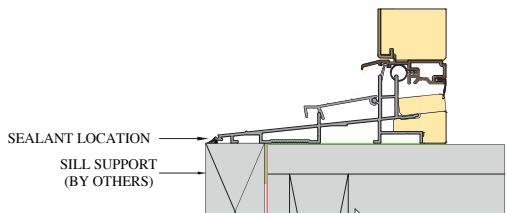

FIG. 23: STANDARD DOOR SILL
B) Attach a sill support block beneath the sill. Apply a bead of sealant at the nose of the sill and support block. (Fig. 23)